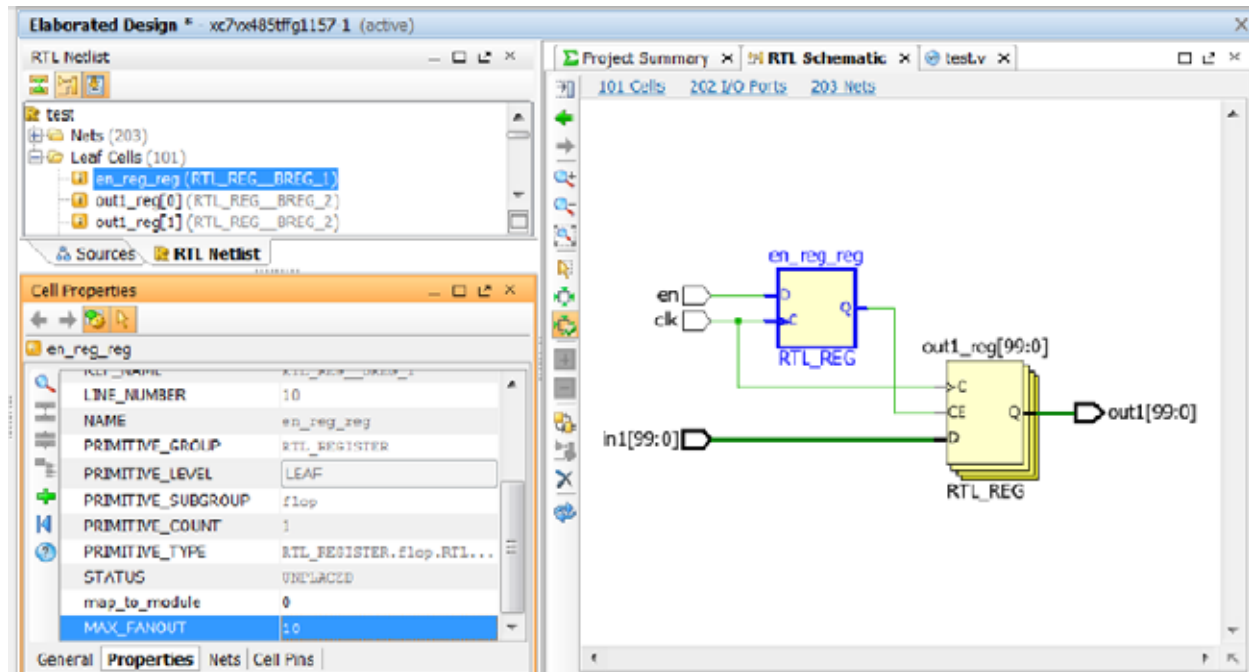

Figure 2-1: Adding an XDC Property from the Elaborated Design View
1. Open the elaborated design (Figure 2-1), and select the item on which to place an attribute, using either of the following methods: